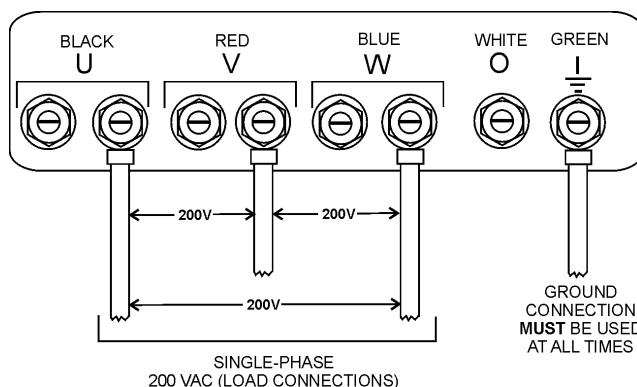

Figure 24. UVWO Terminal Lugs 1Ø-200V Connections
2. Connect the load wires to the UVWO terminals as shown in Figure 24.